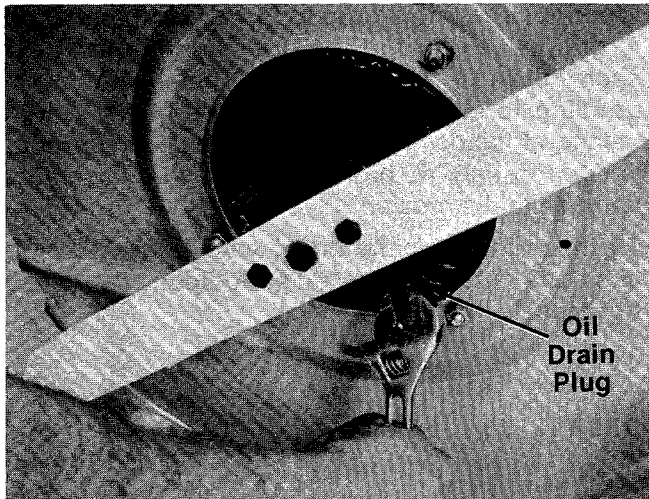

FIGURE 19.
**CHANGE OIL** after first 5 hours of operation. Thereafter change every 25 hours. Change oil while engine is warm. Oil may be drained thru drain on bottom of engine. To drain completely, always place engine level when draining thru the bottom. Oil capacity 1-1/4 pints. See figure 19.